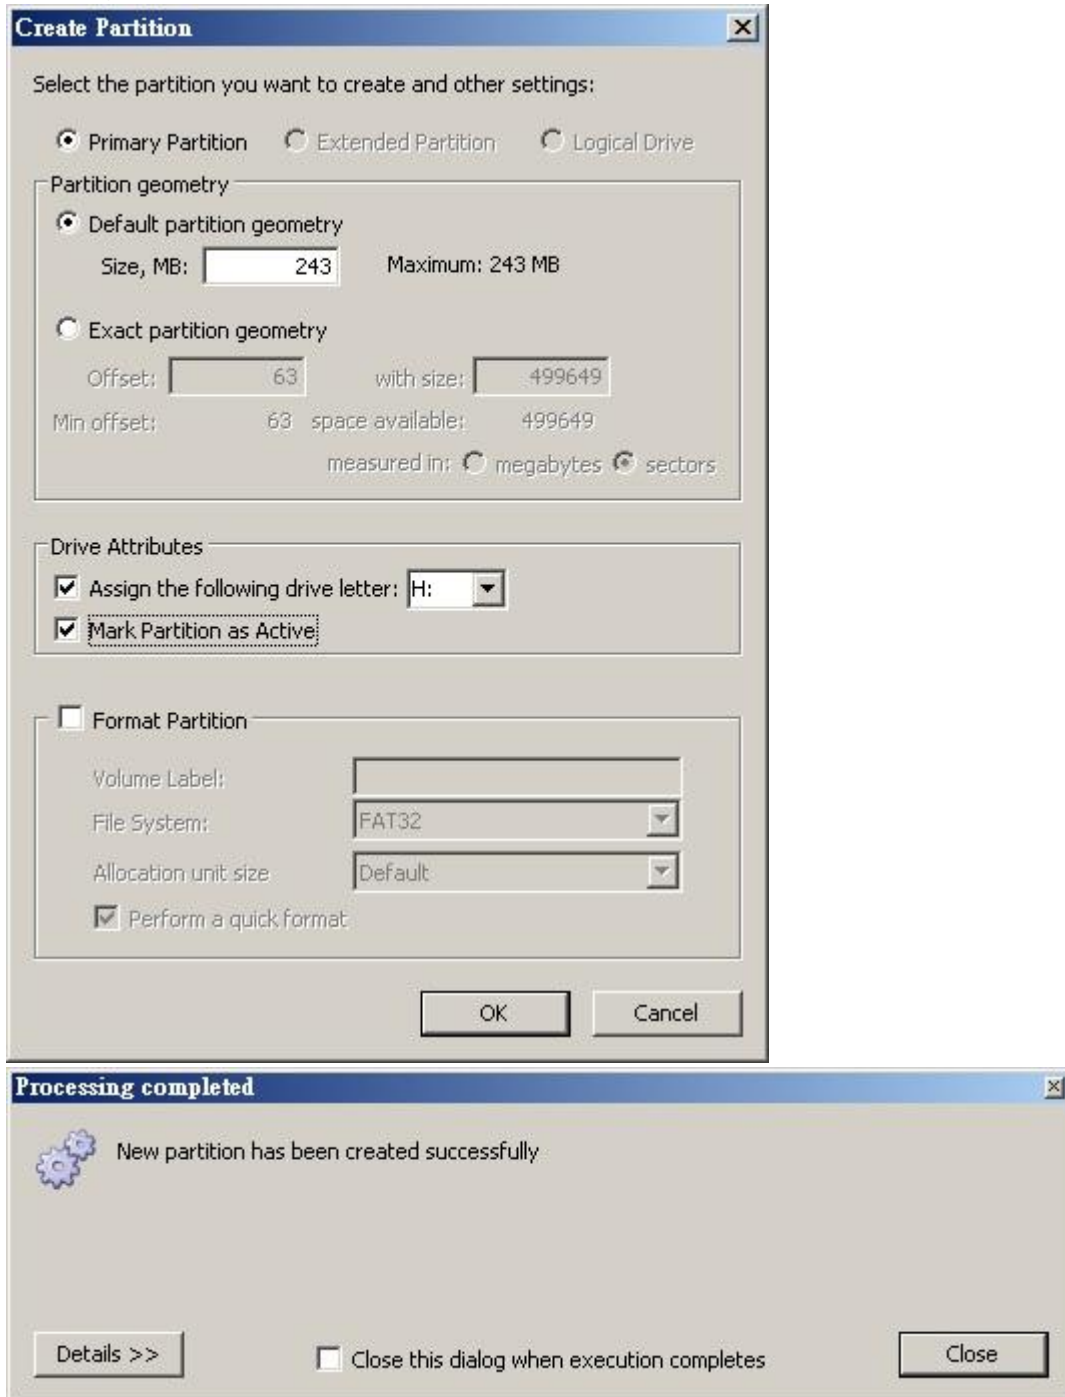

Figure 105
- In the menu mark “partition as active”, press OK, it will then show “successful” (see Figure 105)